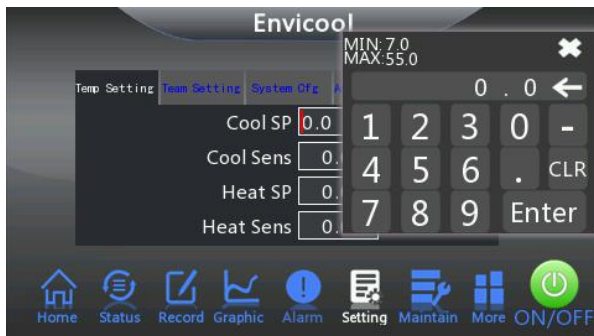

Figure 3.2.8.2 System parameter setting interface
3. Set the dual computer switching function (group control), and the group control setting interface is shown in figure 3.2.8.3.